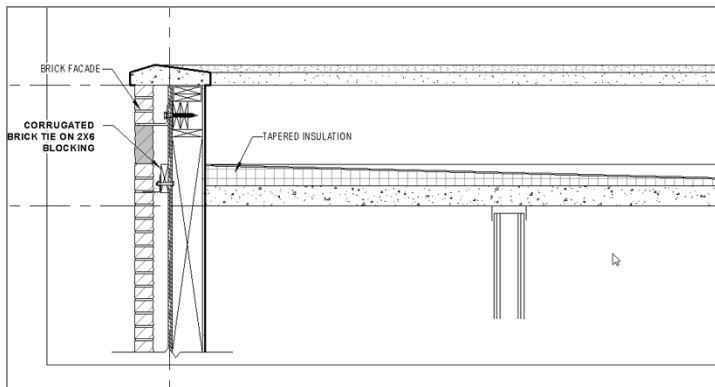

FIGURE 12.72: The slip track without the filled region
7. Save the model. Your detail should now look like Figure 12.72.